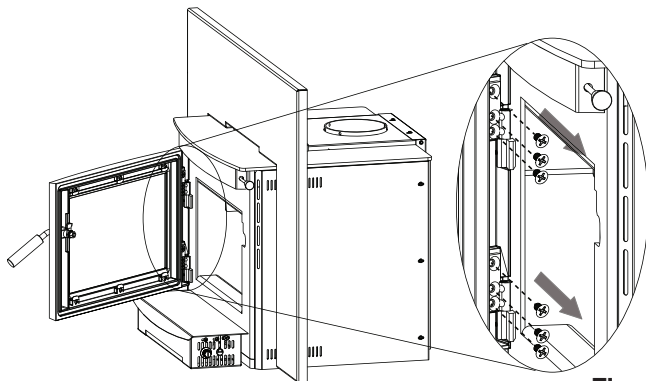

Fig. 1
1. With one hand on the door to prevent it from falling, open the door and remove the 6 large screws located on the hinges (**Fig. 1**).